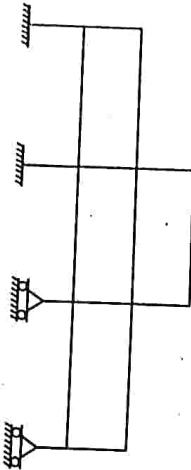

Fig. 19.
a. Find static indeterminacy and kinematic indeterminacy of the given structure. See Fig. 19. (7 × 1 = 7)
Given : Frame shown in Fig. 19.